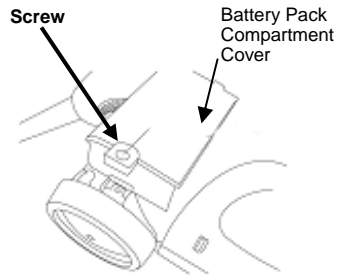

Fig. 5
3. With a #1 Phillips screwdriver, remove the screw securing the battery pack compartment cover to the unit and place aside. (Fig. 5)